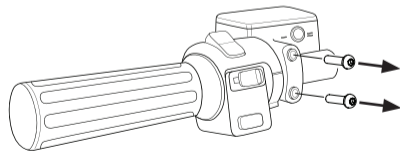

Figure 1
2. Remove the two stock clutch, front brake, or brake reservoir screws from the Control Assembly as shown in **Figure 1**.